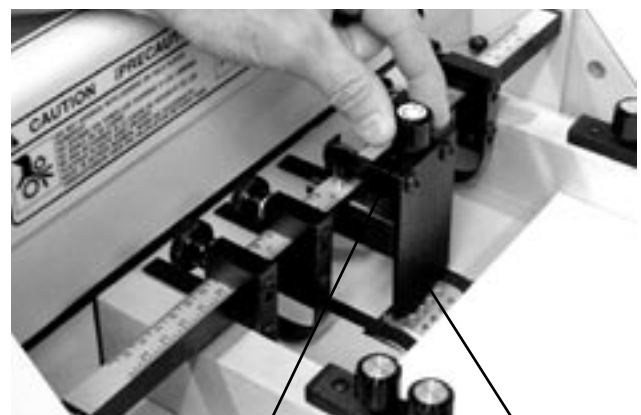

Fig 22
3. Raise the sheet separator counter clockwise (ccw) so it is away from the sucker wheel (fig. 22). Place a sheet of the paper to be folded on the feed table. Slide the sheet forward into the rollers. The sheet must contact the rollers evenly and not touch the side guides. Turn the hand wheel so about 1/2" (3mm) is pulled into the rollers.